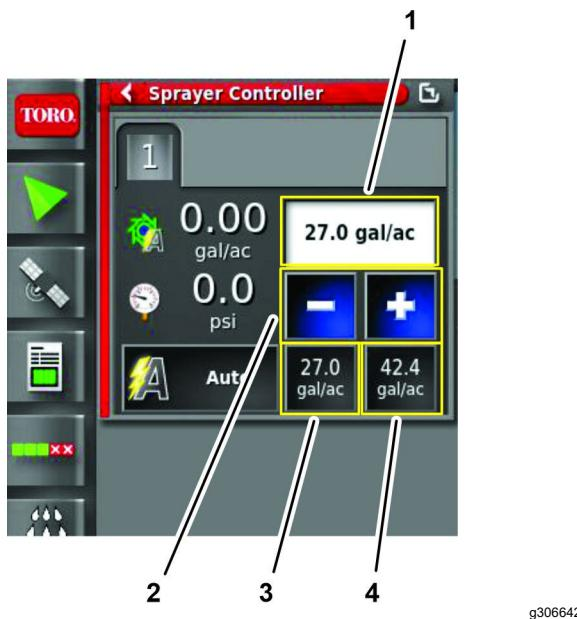

Figure 159
- If the rate is not correct, change the rate with the preset rates, incrementally or selecting the current rate and manually entering the application rate (Figure 159).